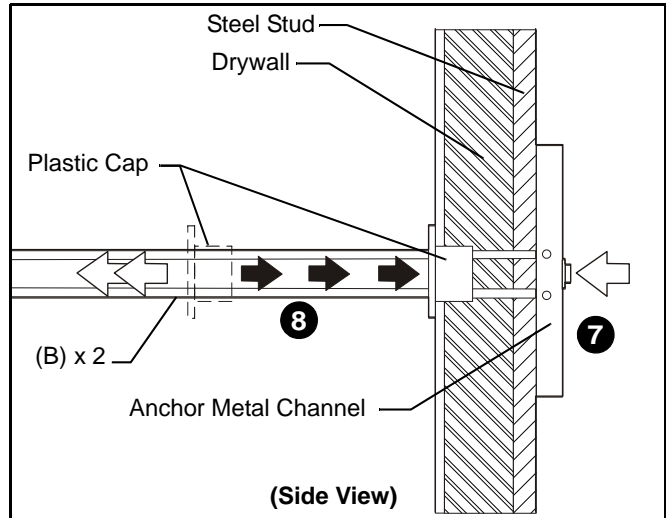

Figure 11
7. Holding plastic straps on anchor (B), pull anchor away from wall until channel rests flush behind wall making sure anchor channel is positioned vertically on stud. (See Figure 11)
8. Slide plastic cap on anchor (B) towards wall until flange of cap is flush with wall. (See Figure 11)